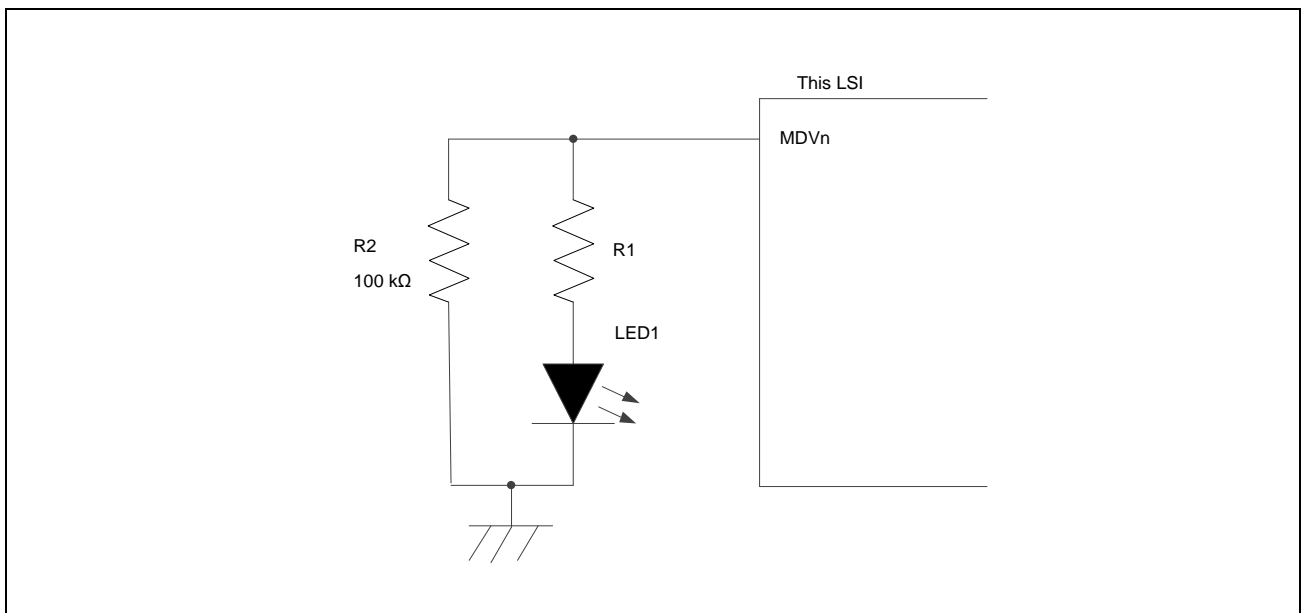

Figure 2.2 Example of the circuit for MDVn = Low (1.8 V) setting
**Figure 2.2** shows an example of MDVn.circuit for Low setting. The mode setting voltage of the MDVn pin is input between the pull-down resistor R2. When the mode transition is completed and the main program starts, LED1 is controlled.